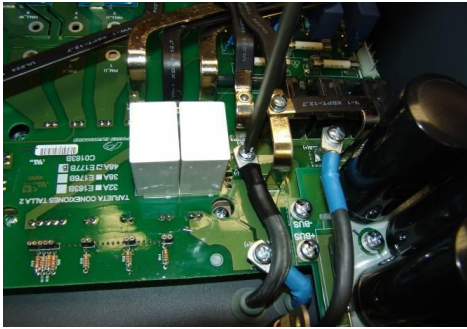

Figure 7.2.17
- 1) It is necessary to disconnect the power cables in order to remove the single-phase chokes from the chassis of the drive. For this, disconnect the power cables which are connected to the power connections board (see figure 7.2.17).
- 3) Connect the cables of the chokes to the power connections board (see figure 7.2.17).